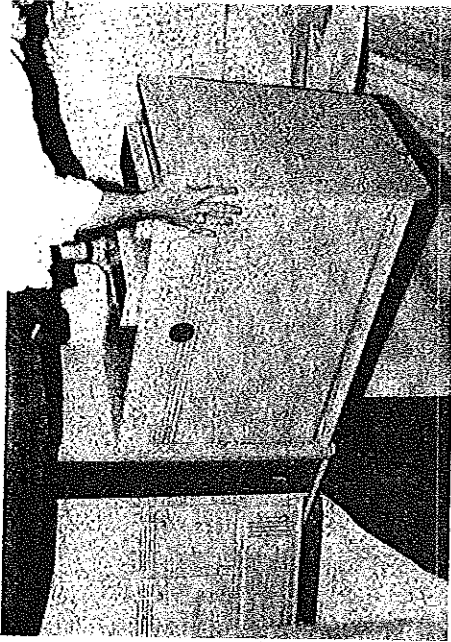

FIGURE 15
20. Grasping the wardrobe with two hands, lift and hold in the vertical position with one hand. See Figure 15.